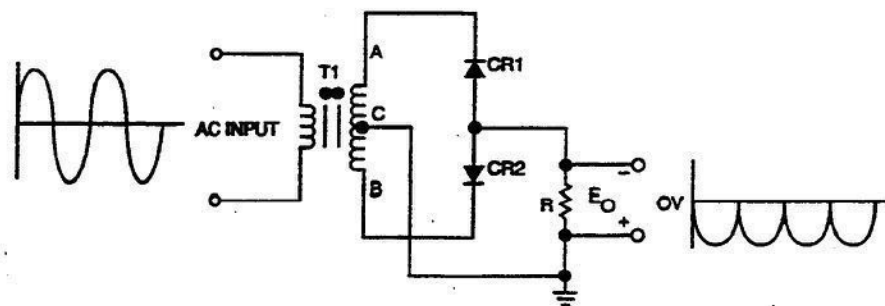

Figure 3-11. Negative full-wave rectifier.
Figure 3-11 shows the configuration of a negative full-wave rectifier. The diodes have been reversed in the circuit and the cathodes are now closest to the tops of the transformer.
4. To produce a negative pulsating DC output from a full-wave rectifier, how must the current flow? Refer to figure 3-11.